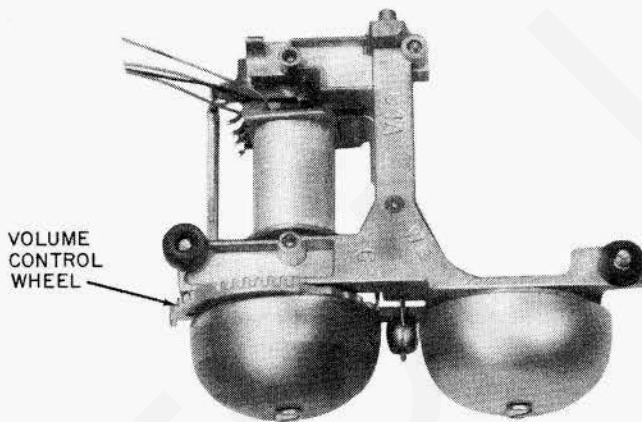

Fig. 2—C4A Ringer (Rear View)
2.03 Volume control wheel (Fig. 2) may be adjusted for ringer cutoff when requested by customer or in accordance with local instructions.